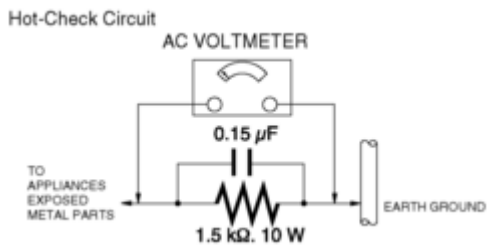

Figure. 1
1.3 Leakage Current Hot Check (See Figure. 1)
2. Connect a 1.5 k Ω , 10 W resistor, in parallel with a 0.15 μ F capacitor, between each exposed metallic part on the set and a good earth ground, as shown in Figure. 1.